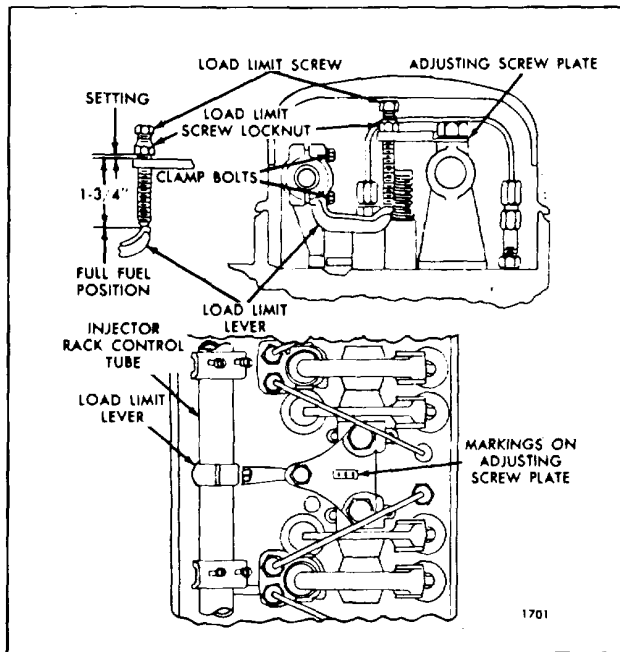

Fig. 1 - Engine Load Limit Device
Engines with mechanical governors may be equipped with a load limit device (Fig. 1) to reduce the maximum horsepower.
After the engine tune-up is completed, make sure the load limit device is properly installed as shown in Fig. 1. Make sure the counterbores in the adjusting screw plate are up. The rocker arm shaft bracket bolts which fasten the adjusting screw plate to the brackets are tightened to
- 3 With the screw out of the plate, adjust the load limit screw lock nut so the bottom of the lock nut is 1 3/4" from the bottom of the load limit screw (Fig 1) for the initial setting.